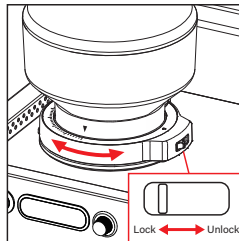

Figure 2
3. To remove the grind collar, press and hold down the "RELEASE" button on the top of the grinder base and hold the collar grip tabs and turn anti-clockwise with the other hand. (figure 2)